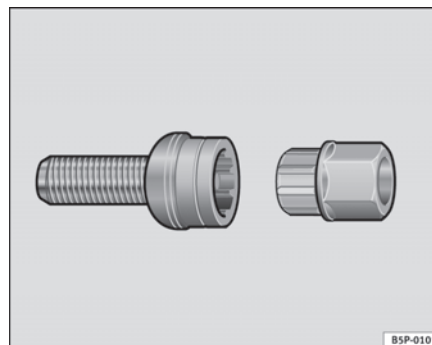

Fig. 179 Anti-theft wheel bolt
- Insert the adaptor onto the wheel bolt and push it on as far as it will go ⇒ page 244, fig. 179.